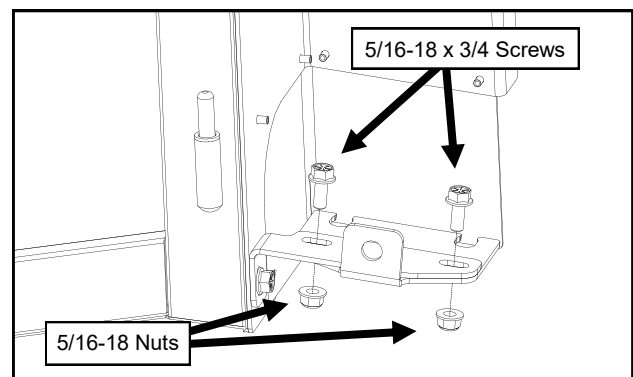

Fig. 9.2 (Rear Mount to Rear Bracket Fasteners)
- 9.2 Secure the rear mount to the rear brackets as shown in Figure 9.2